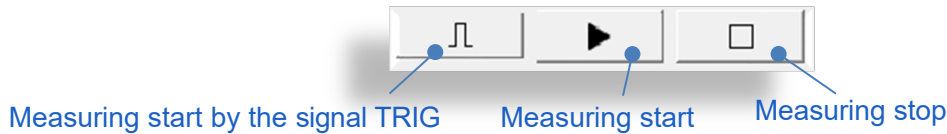

FIGURE 5.9: START AND STOP BUTTONS OF MEASUREMENT
5. Press "Start" to begin the measurement (Figure 5.9).
1. Press "STOP" (Figure 5.9) for measurement ending. Each new measurement is performed in a new tab. Each tab can be saved in separated log file. All settings are available only in the stop condition.